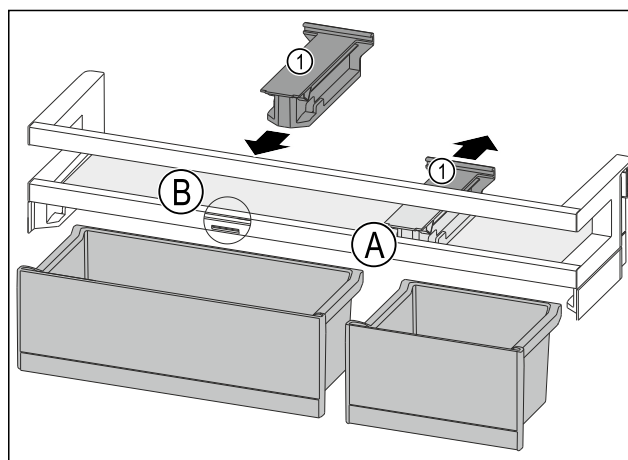

Fig. 81
- Pull off the retaining part Fig. 81 (1) in position Fig. 81 (A) downward.
- Insert the retaining part Fig. 81 (1) in position Fig. 81 (B).